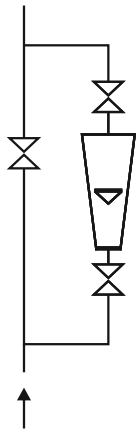

fig. 1
- 2)In all types of rotameters the most profitable is ( in case of industrial rotameters it is necessary ) shount of rotameters (fig.1). It makes possible to exchange rotameter without the interruption in technological process. The detour valve in closed condition must be completely tight.